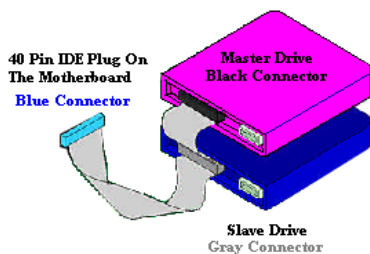

Figure 2-8. How to connect an ATA/66 Cable to the Motherboard
- Attach the **BLACK** connector to the mating plug on the master hard drive. Attach the **GREY** connector to the mating plug on the slave drive (secondary hard drive, CD-ROM, or tape drive). Please refer figure 2-8.